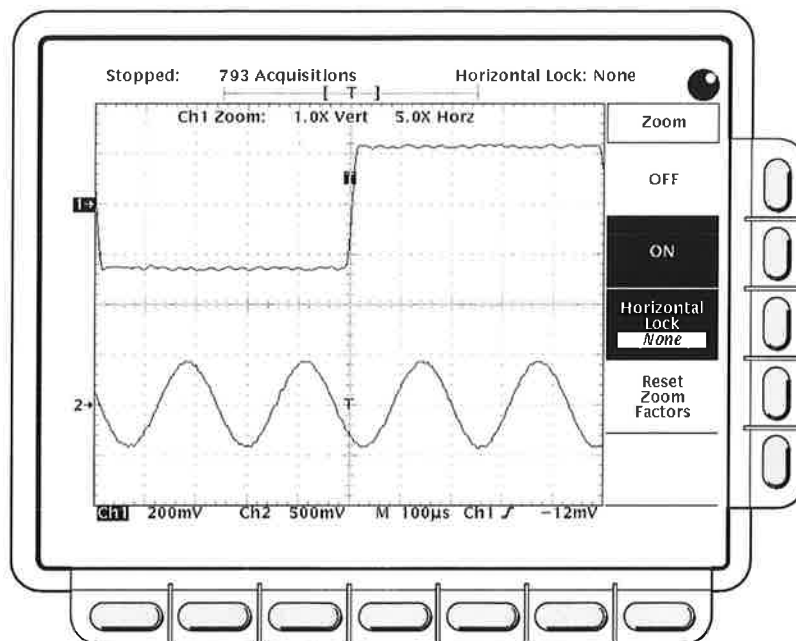

Figure 3-65: Zoom Mode with Horizontal Lock Set to None
- **None**—only the waveform currently selected can be magnified and positioned horizontally (Figure 3-65).